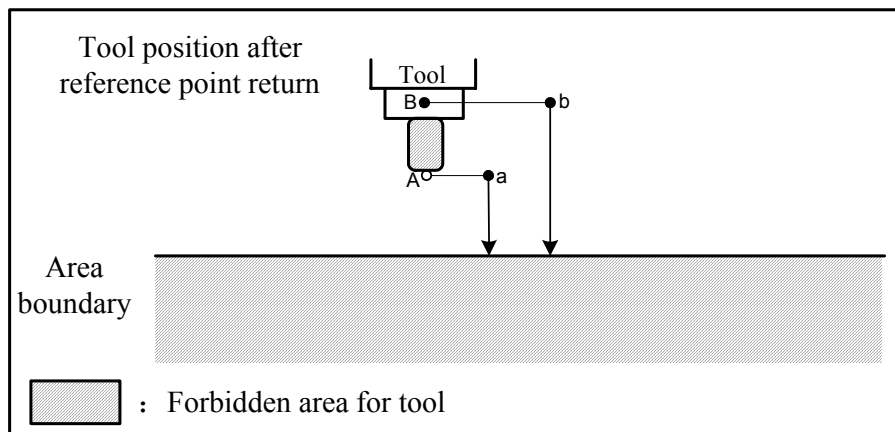

Fig. 2-6-4 Setting forbidden area
- 3) Check point for the forbidden area: Before programming for the forbidden area, please confirm the check point (the top of the tool nose or tool holder). As is shown in Fig.2-6-4, if the check point is A (tool nose), the distance "a" should be set as the data for stored function check; if the check point is B (tool holder), the distance "b" should be set as the data for stored function check. When the check point is A (tool nose), and the tool lengths vary with the tools, the forbidden area should be created according to the longest tool, thus ensuring the safe operation.